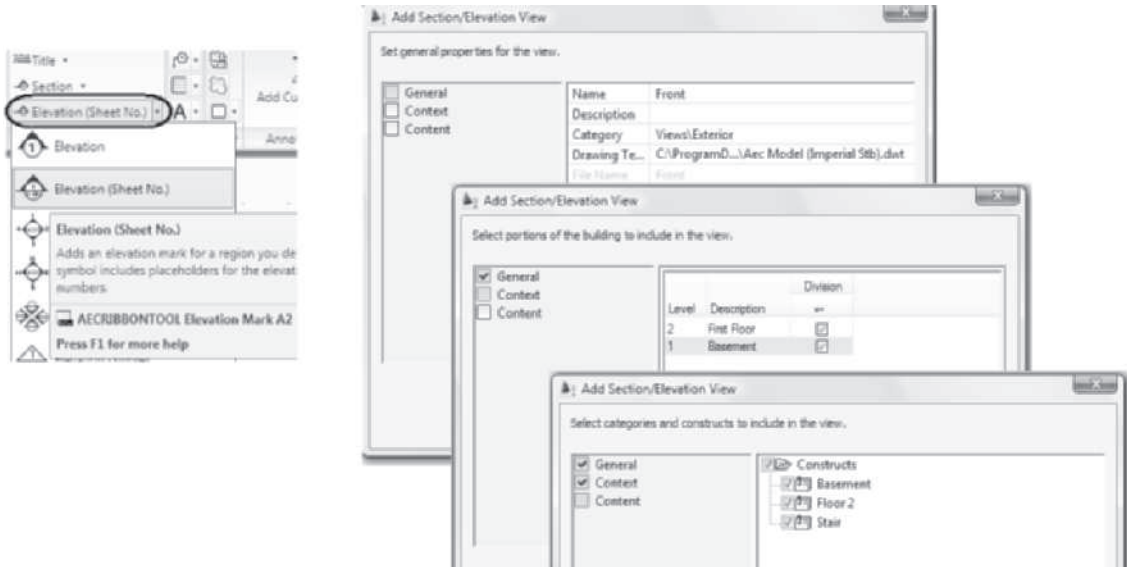

FIGURE 12.65 Editing the Add Section/Elevation View dialog box
7. Choose the **Annotate** tab and double-click **Annotation Tools** of the **Tools** panel. Select **Elevation (Sheet No.)** from the **Elevation** flyout on the **Callouts** panel as shown in Figure 12.65. Respond to the workspace prompts as follows:
(Edit the **Add Section/Elevation View** dialog box as shown in Figure 12.65 as follows: type **Front** in the **Name** field, edit **Category** to **Views\Exterior**, click **Next**, check **level 1 [G]** and **level 2 [1]** for the **division 1** of the **Context** page as shown in Figure 12.65, click **Next** to open the **Content** page, and check **Constructs**, **Floor 2**, **Basement**, and **Stair**. Click **Finish** to close the dialog box.)